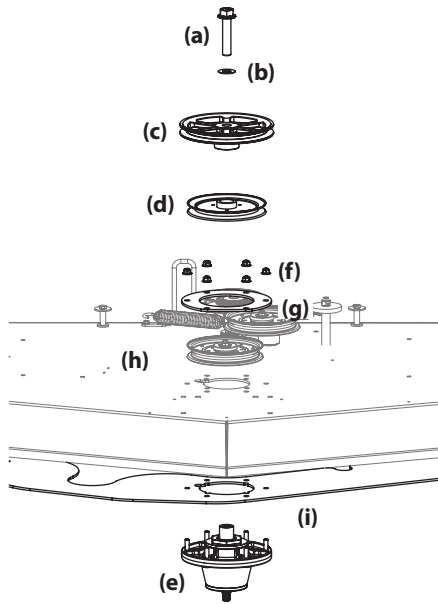

Figure 61
8. Remove the hex flange bolt (a) and flat washer (b) securing the drive pulley (c) and center spindle pulley (d) to the spindle assembly (e). See Figure 61.
9. Remove the six (6) flange lock nuts (f) securing the center (d), spindle assembly (e) and the support plates (g) to the deck shell (h). See Figure 61.